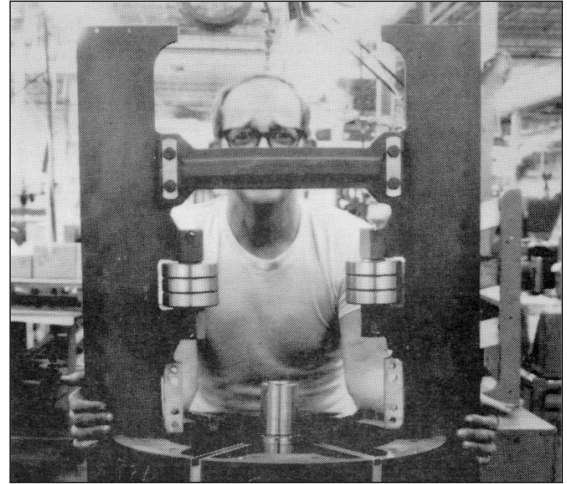

Figure 36
10. The blades and shaft can now be removed in sequence as shown in Figures 36, 37, 38, and 39.